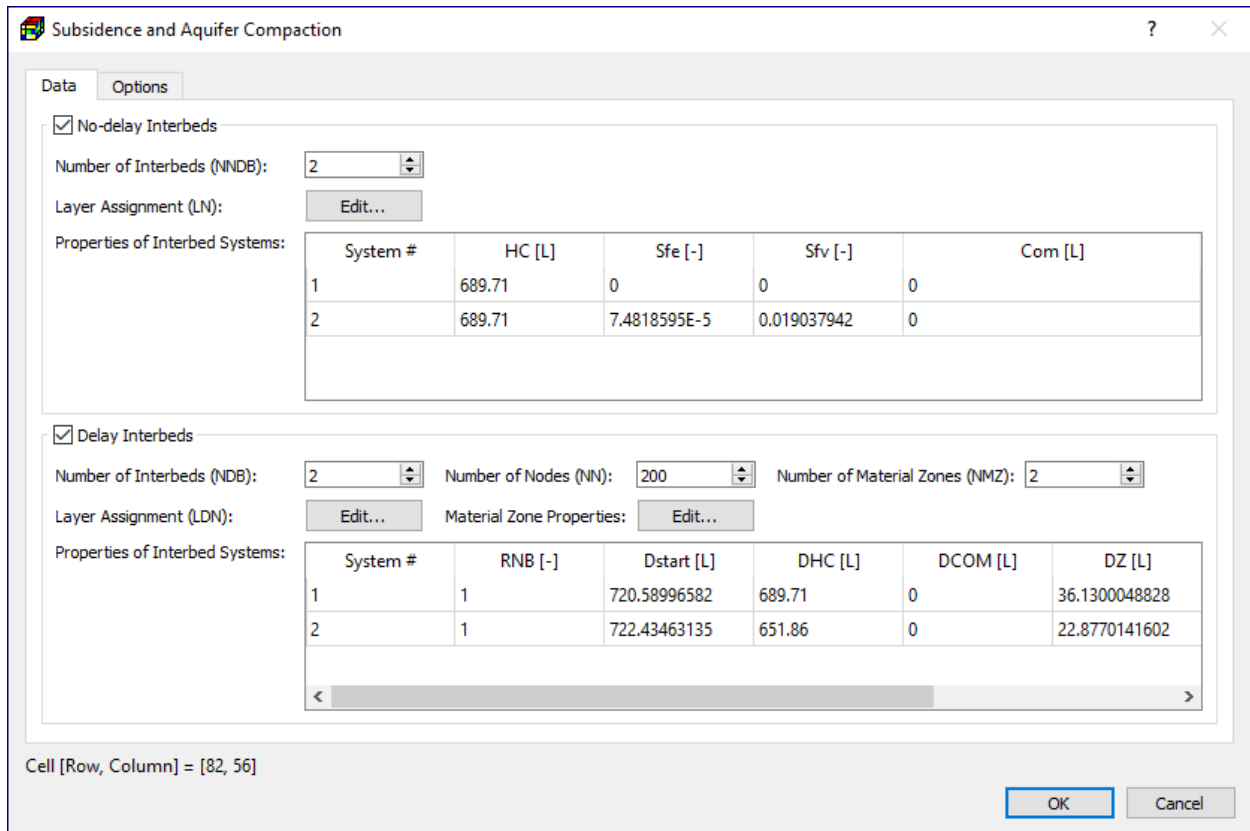

Figure 87. The Subsidence and Aquifer Compaction dialog box
1. Cell-by-cell input method: Figure 87 shows the dialog box for specifying cell properties.
- **Layer Assignment (LN):** Click the Edit button to open the Layer Assignment dialog box that allows you to assign systems no-delay interbeds to model layers.